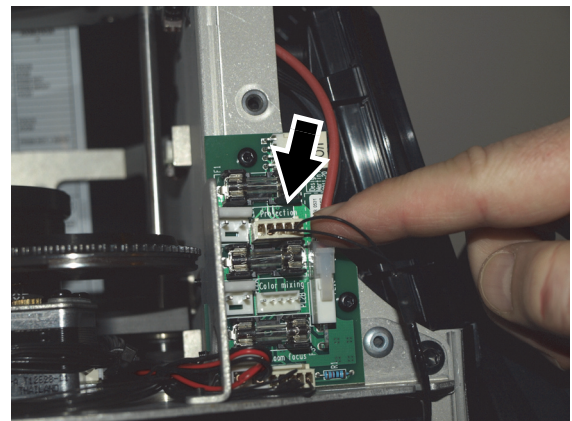

Figure 16: Disconnecting aperture plate
4. See Figure 16. An aperture plate module is installed in the standard MAC Viper Wash. The module is passive but it identifies itself to the fixture via a wireset. Unplug its connector (arrowed) from **PL1B Projection** on the right-hand side of the head. Unplug the aperture plate wireset and lift up the wireset so that it hangs loose.